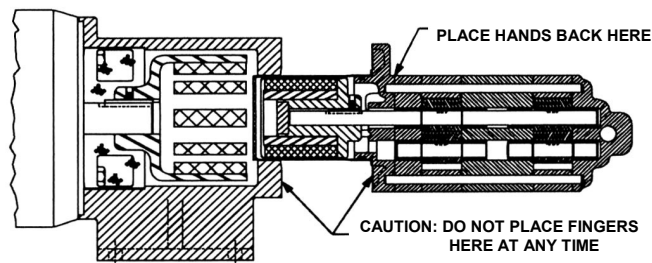

FIGURE 6
1. Read all of the instructions before proceeding with disassembly of the coupling and/or pump. Remove piping to ports and remove the mounting capscrews securing pump to bracket. Support larger pumps with overhead hoist if possible. Remove pump from coupling bracket. See FIGURE 6 on page 4.